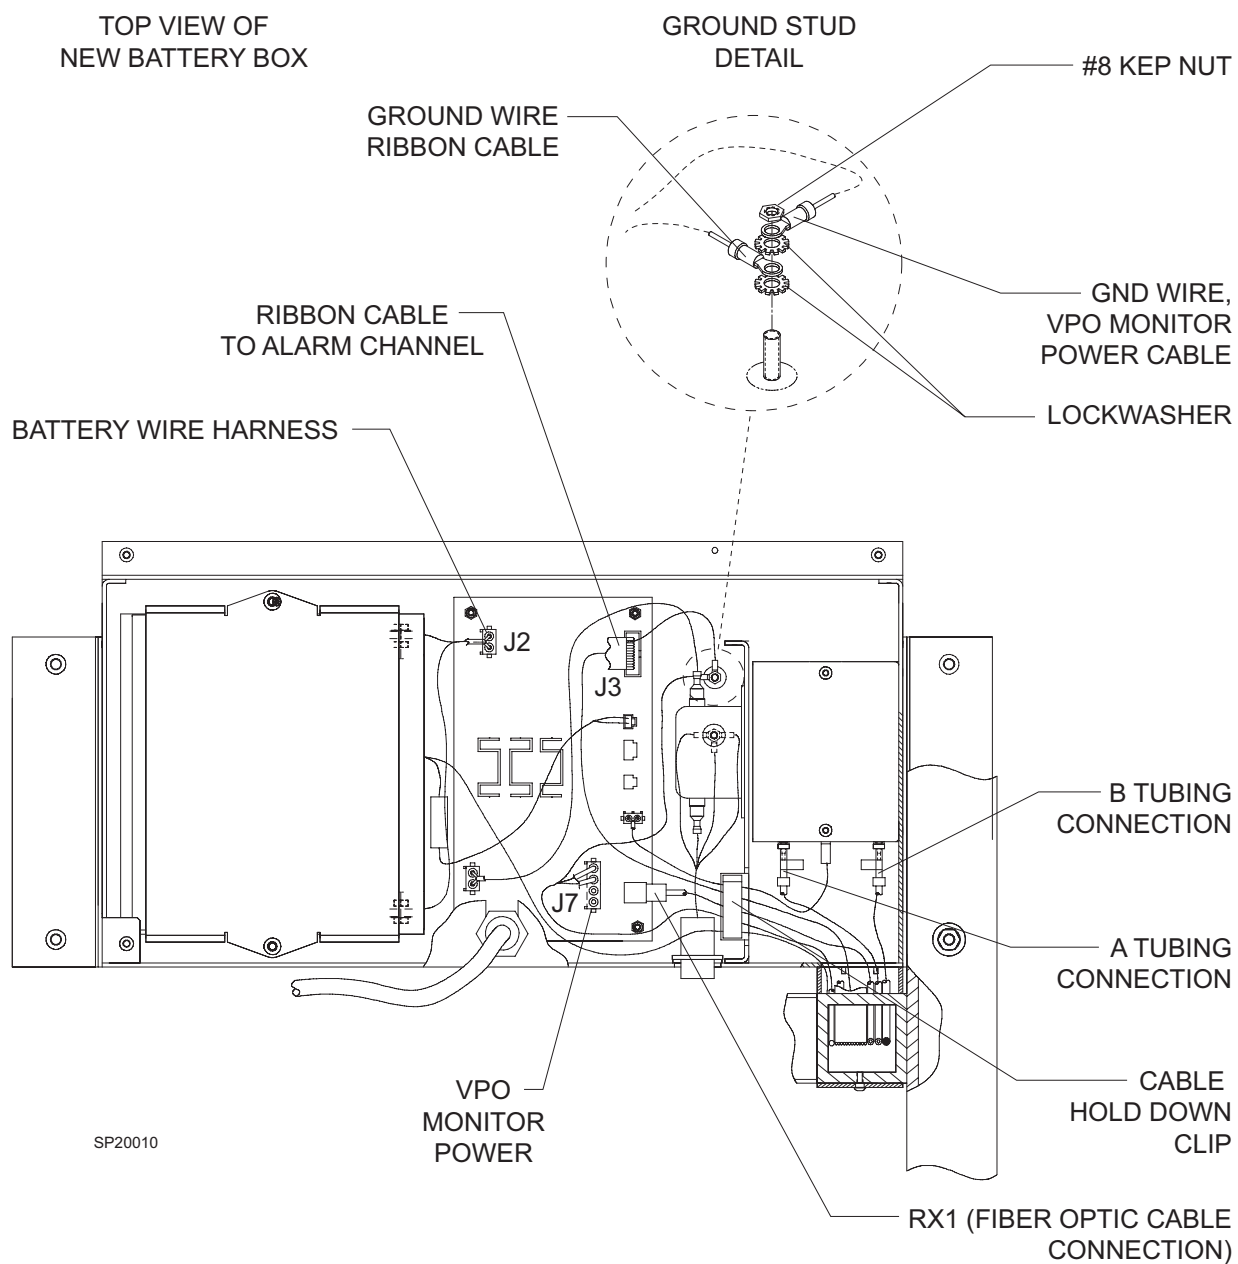
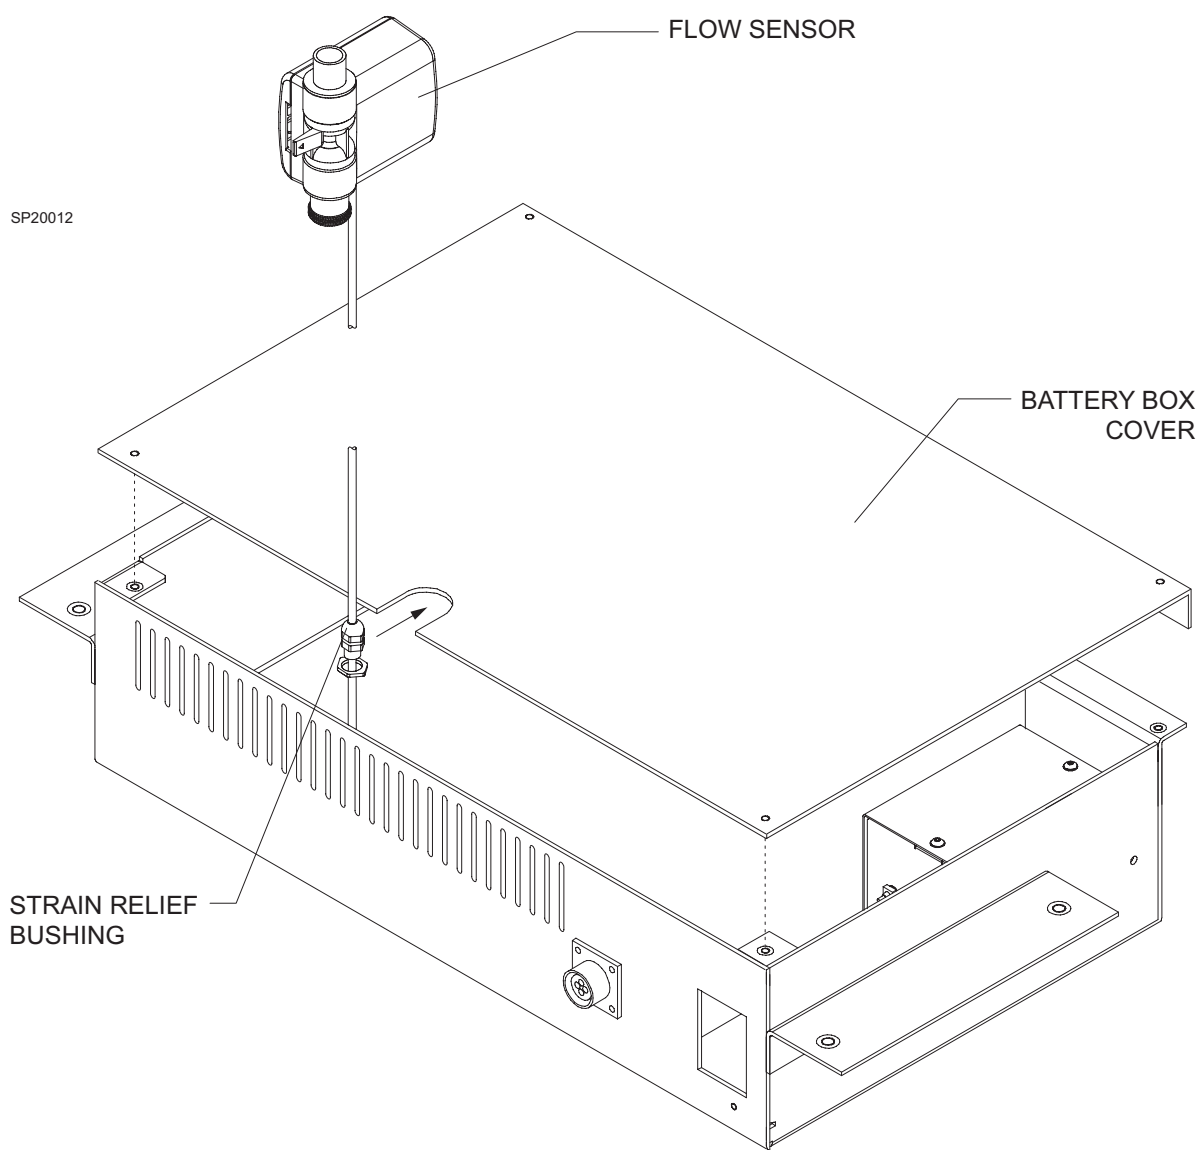

FIGURE 10. New Battery Box Connections
FIGURE 13. Flow Sensor Cable Install
| <p>72. Remove the battery box cover - carefully remove the flow sensor cable strain relief bushing from its slot in the cover (ref. Figure 13).</p> <p>73. Position the new battery box assembly (P/N 4116235) under the frame rails of the machine, with the solenoid box toward the left side of the machine.</p> <p>74. Place a support under the battery box, and secure it to the frame rails with the hardware previously removed.</p> | <p>75. Connect the shielded 14-pin ribbon cable (P/N 4116392) end with the ring connector, to J3 on the battery box PCB. See Figure 10.</p> <p>76. Connect the VPO monitor 4-pin power cable (P/N 4116313) to J7 on the battery box PCB.</p> <p>77. Install an ext-t lock washer (P/N HW68001) on the open ground stud in the battery box, and install the shielded ribbon cable ground wire on the stud.</p> <p>78. Install another ext-t lock washer (P/N HW68001) on the ground stud, then install the monitor power cable ground wire. Secure the ground connections with a #8 kep nut (P/N HW55001).</p> <p>79. Open the cable hold-down clip in the battery box. Route the shielded ribbon cable, the flow sensor cable and the monitor power cable through the clip, and re-close the clip.</p> |
93. Feed the two 1/8 in. flex tubes marked A & B into the battery box through the access hole at the rear corner. See Figure 10.
97. Position the new battery box cover (P/N 4116247) with its lip downward at the front of the machine, and its slot at the rear. See Figure 13.